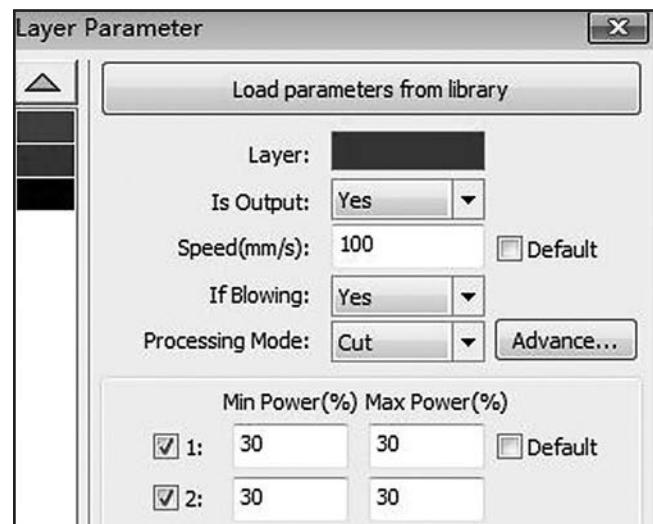

Figure 34. Layer Parameter dialog box.
2. Double-click layer to open "Layer Parameter" dialog box (see **Figure 34**).
3. Set "Is Output" to "Yes" (see **Figure 34**).
4. Set desired cutting/engraving speed in mm/s (see **Figure 34**).
5. Set "If Blowing" to "Yes" (see **Figure 34**).
6. Set "Processing Mode" to "Cut" or "Scan" as desired (see **Figure 34**).
7. Set "Min Power (%)" and "Max Power (%)" as desired (see **Figure 34**).